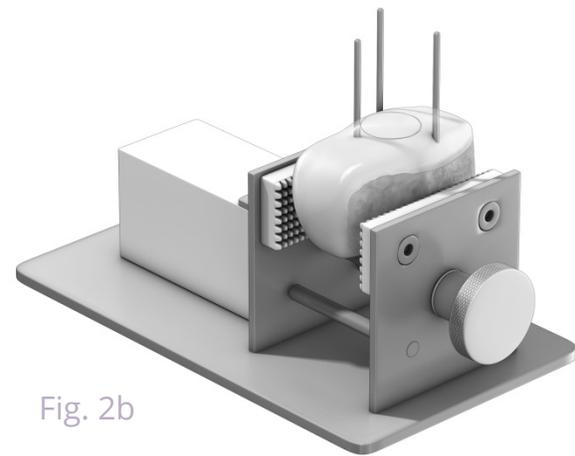

Fig. 2b
**Step 6:** With the cutter/guide and pin placed on the allograft, slide the alignment collar over the cutter/guide. Secure the short collar pins into the perimeter holes of the alignment collar (Fig. 2b). Some holes may not overlap the condyle; do not drive pins into these holes. Remove the cutter/guide and make hash marks, inside the alignment collar, on the circumference at the 12, 3, 6, and 9 o'clock positions (double mark at 12 o'clock). This mark will be used for orientation. Cover the allograft with wet gauze, set it aside, and keep it moist through the entire procedure; this is essential to maintain cell viability.